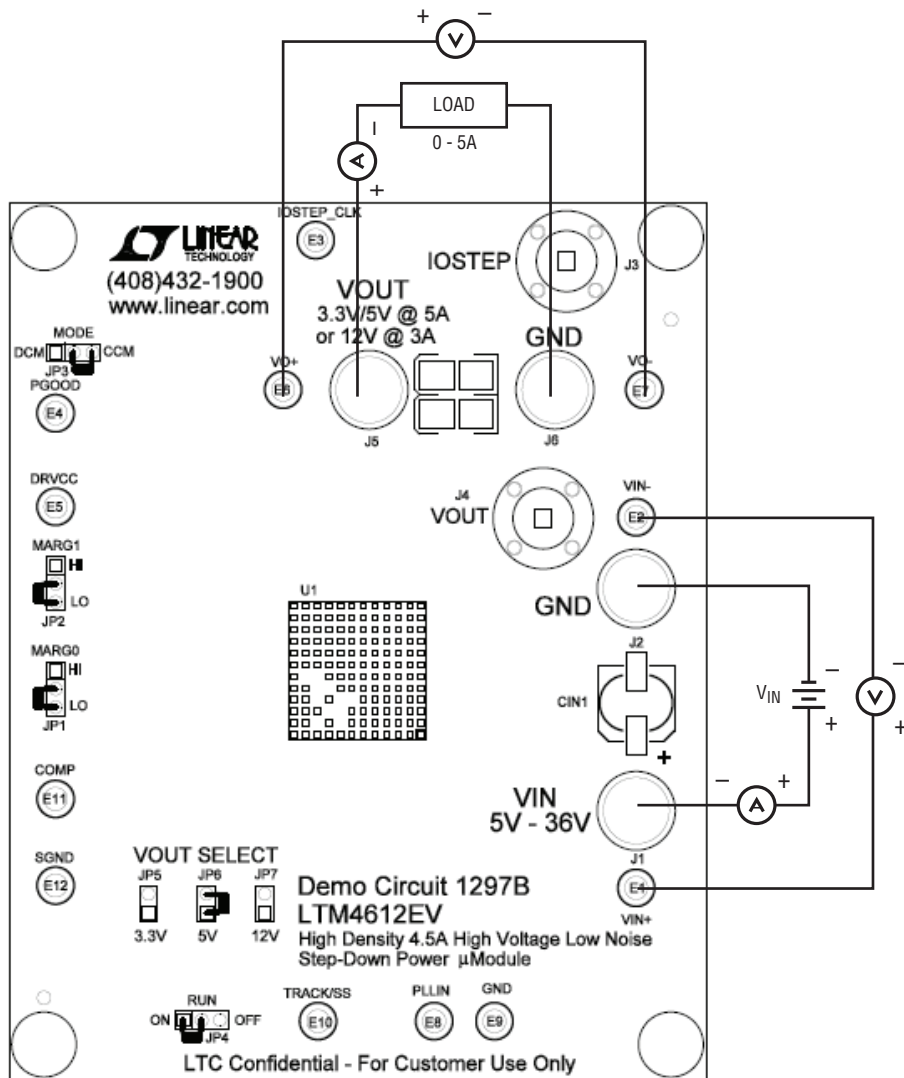

Figure 1. Test Setup of DC1297B
Demonstration circuit DC1297B is an easy way to evaluate the performance of the LTM4612EV. Please refer to Figure 1 for proper measurement equipment setup and follow the procedure below:
2. With power off, connect the input power supply, load and meters as shown in Figure 1. Preset the load to 0A and the input supply to be 12V.